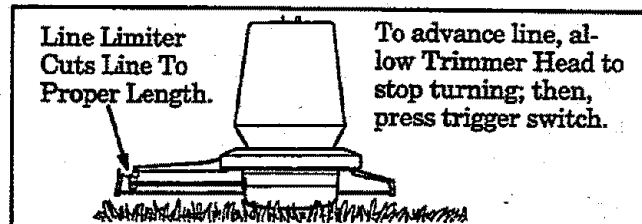

Figure 8
- Always keep the shield in place when the unit is being operated. Figure 8.